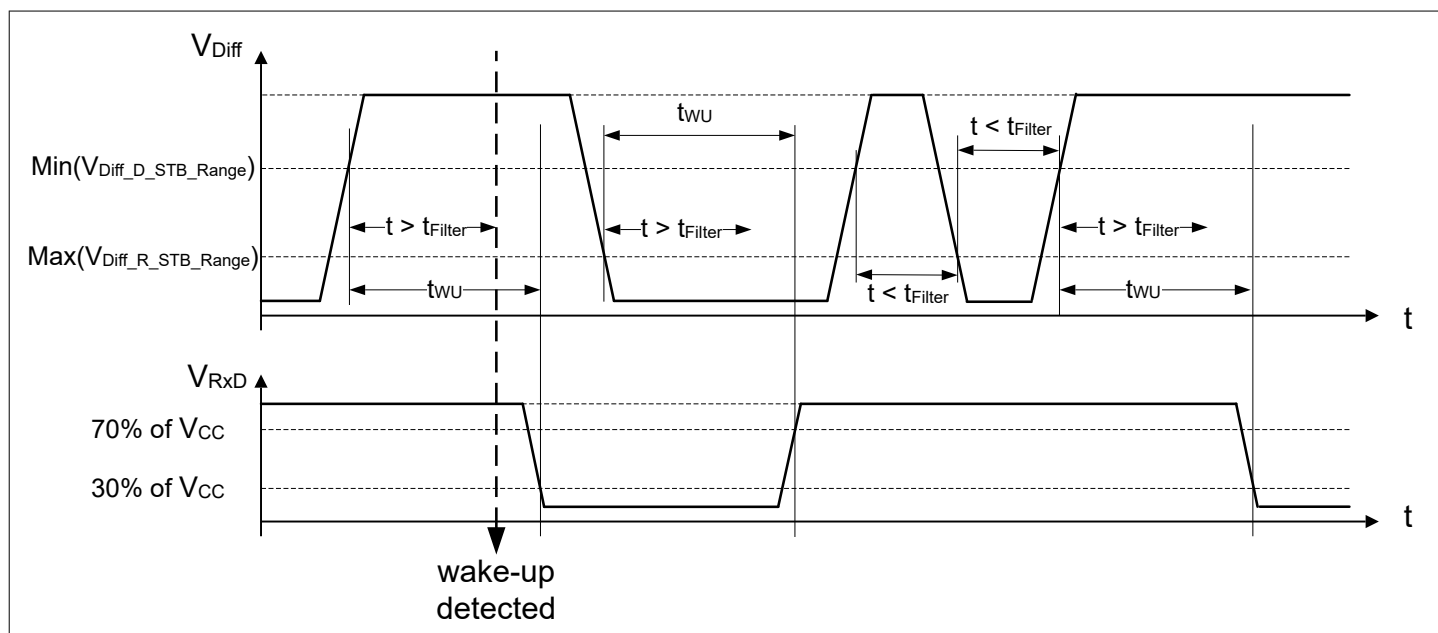

Figure 8 RxD signal follows the CAN bus signal
- The low-power receiver is enabled and monitors the HS CAN bus for a valid wake-up pattern (WUP). The RxD output pin indicates the detection of a valid wake-up pattern (Chapter 4.4.2). As long as no wake-up event is detected, the default of the RxD output is "high". After detecting a wake-up, the RxD follows the bus with a certain delay (see Figure 8)
If the device detects a wake-up event, then it sets the RxD output pin to “low” and then the RxD output follows the CAN bus signal with the delay of t_{WU} as long as the pulse width exceeds the filter time t_{Filter} , see Figure 8.